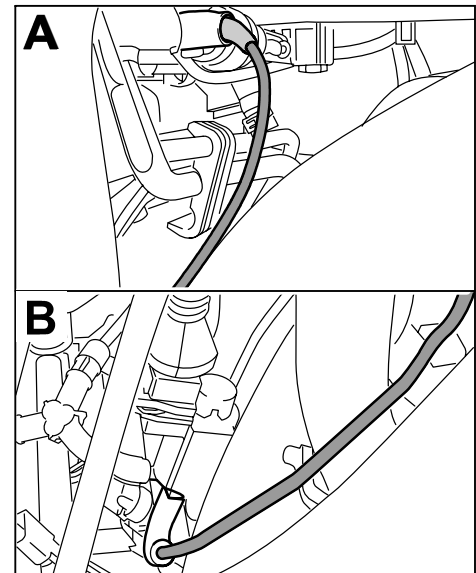

Figure 20
- 5.9 Connect pneumatic actuation system for the electric change-over valve ⇒ *Figure 20*.
T-piece for line to brake booster (top left in engine compartment ⇒ *Figure 20 -A-*) → bent protective tube for sports exhaust system change-over valve (⇒ *Figure 20 -B-*).